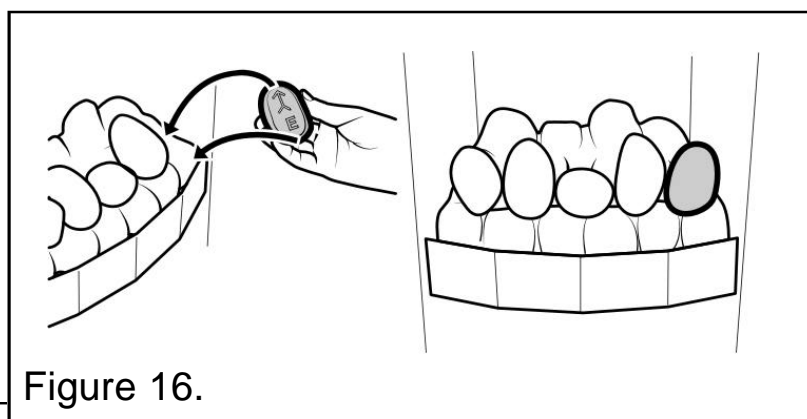

Figure 16.
7. Hold pebble 'E' upright with the arrow pointing to the top. Place pebble 'E' on top of the base pebble (See figure 16).